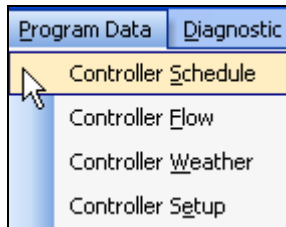

Figure 16.1.1B
1. In the toolbar at the top of the screen select **Program Data** and then scroll down to the words **Controller Schedule** and click on it (Figure 16.1.1B).